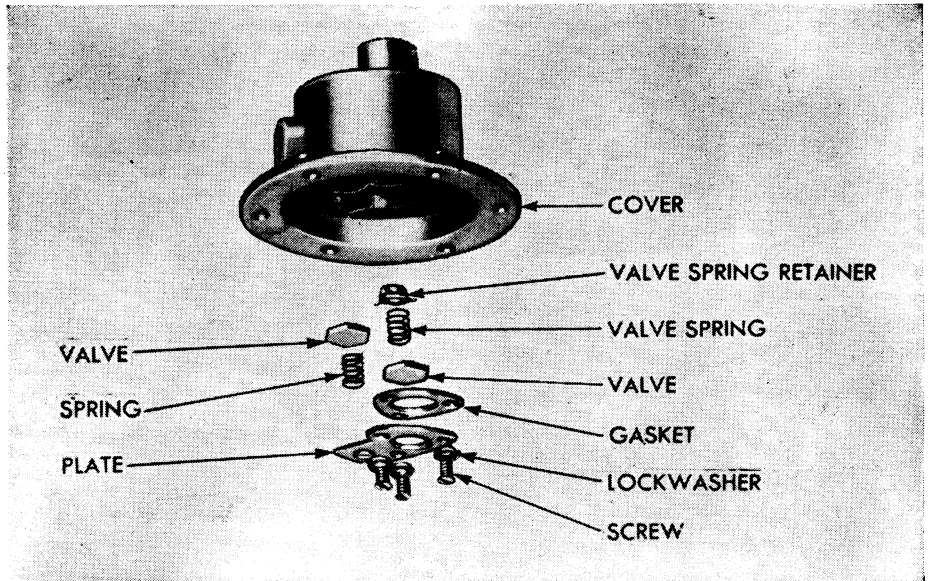

Fig. 27 Series R. If pump being serviced has separate valve parts, assemble in sequence shown
10. If the pump being serviced is one in which the valves are not a unit, install the separate parts in the order shown in Fig. 27.
valves are not a unit, replace the separate parts in the order shown in Fig. 27.
21. Turn the cover over and place the inlet and outlet gaskets in the valve recesses. Install one valve assembly in the valve seat nearest the outlet hole, with three legs facing down. Place the other valve in the other chamber with the legs up. If the pump being serviced is one in which the valves are not a unit, install the separate parts in the order shown in Fig. 27.